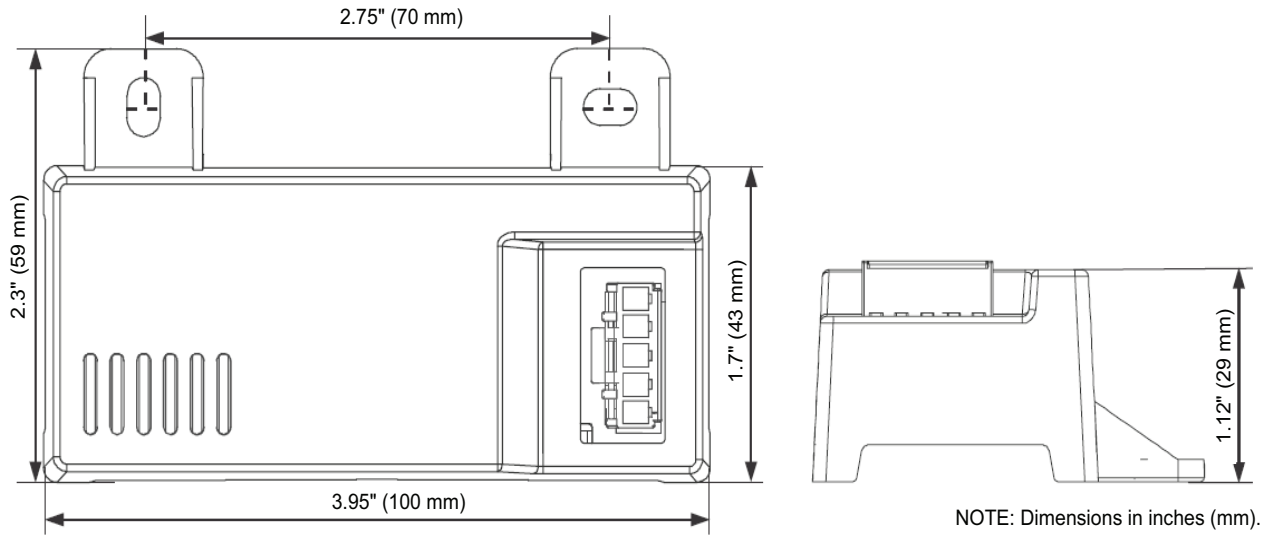
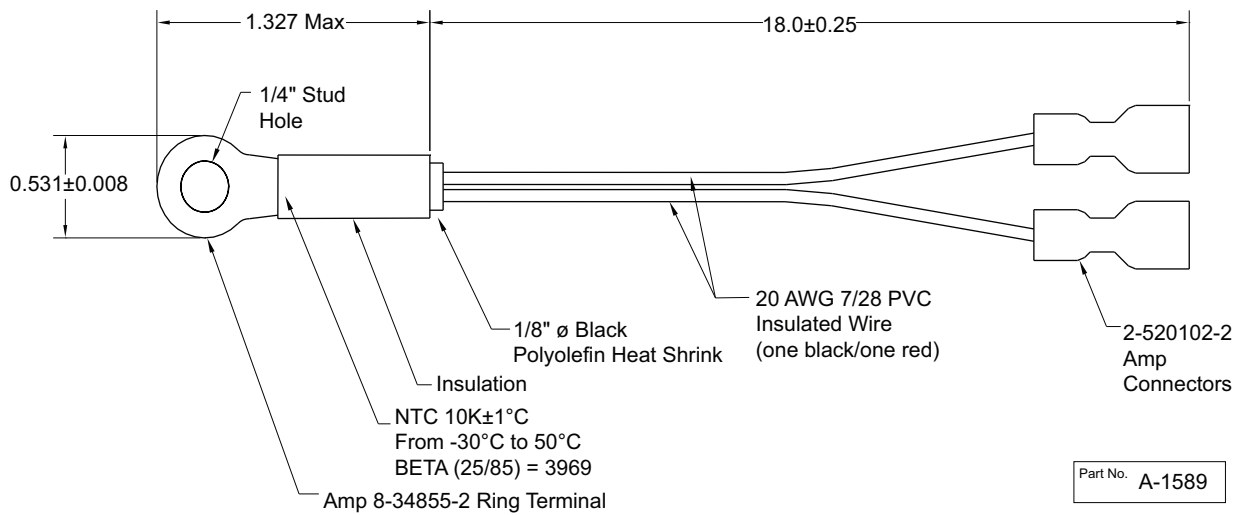
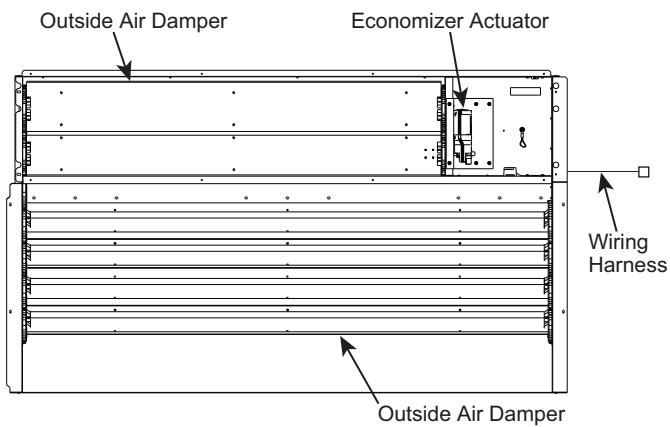

Fig. 83 — HH57LW001 Dimensional, Connection and Switching Information
Fig. 84 — HH79NZ039 Dry Bulb and Mixed Air Sensor Wiring
Fig. 85 — EconomizerONE System Component Locations
When using the HH57LW001 enthalpy sensor (see Fig. 83) for outside air changeover, the existing HH79NZ039 dry bulb sensor (see Fig. 84) must be removed. The enthalpy sensor will be mounted in the same location as the dry bulb sensor (see Fig. 85). When the enthalpy sensor's OA (Outside Air) temperature, enthalpy, and dew point are below their respective set points, outside air can be used for free cooling. When any of these are above their set point, free cooling will not be available. Enthalpy set points are configurable and create an enthalpy boundary according to the user's input. For additional details, see Fig. 86-87 and Table 26.
The optional enthalpy control sensor (P/N: HH57LW001) communicates with the POL224 economizer controller using the 5-wire harness, 48TC005213. The HH57LW001 sensor can be used as a single outside air enthalpy, a differential return enthalpy, or a differential return temperature sensor. Refer to the base unit control wiring diagrams found earlier in this book to wire the HH57LW001 enthalpy sensor for each option. See Fig. 83 and Table 28 on page 64 to locate the wiring terminals for each enthalpy control sensor.
Economizers are shipped standard with an HH79NZ039 outside air dry bulb sensor (refer to Fig. 84). System default setting (high temp limit) is 63°F (17°C) and has a range of 48°F to 80°F (9°C to 27°C). Sensor is factory installed on economizer.
If installing the optional HH57LW001 enthalpy sensor, the HH79NZ039 dry bulb outside air sensor must first be removed. Wire sensor to harness 48TC005213 and the (5) wires from the harness to the EconomizerONE harness in the return air chamber. Harness 48TC005213 has a 5-pin plug that connects directly to the HH57LW001 enthalpy sensor. Refer to the base unit control wiring diagrams earlier in this book for wiring connections. Refer to Fig. 83 and see Table 28.